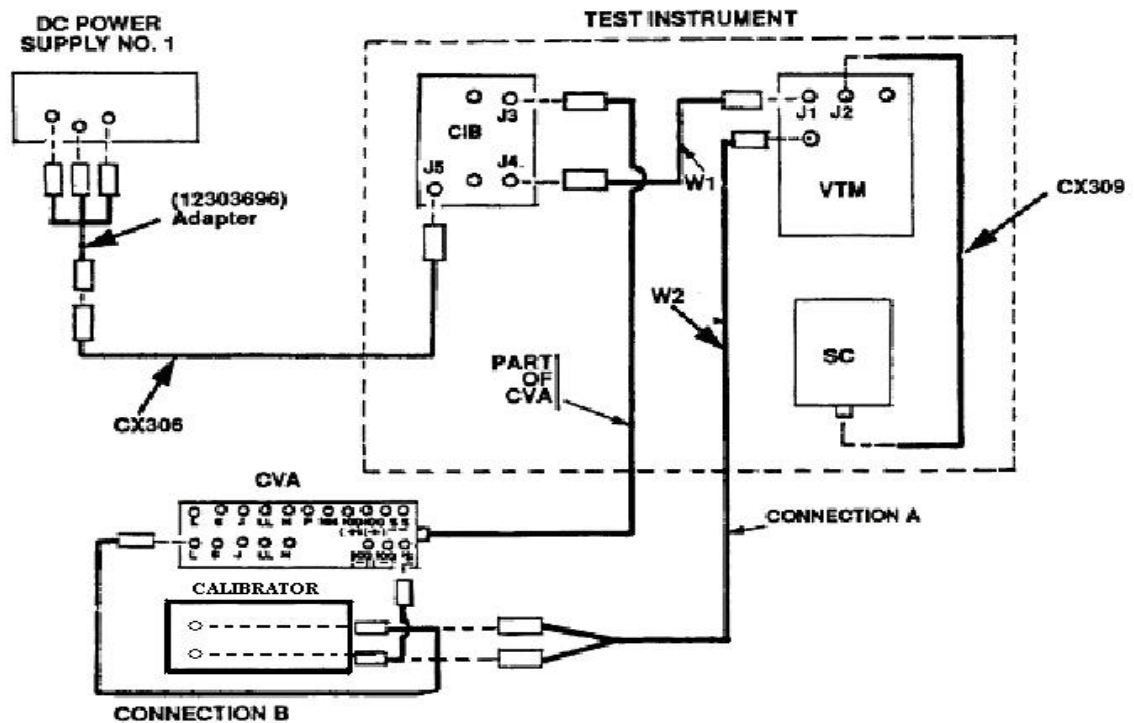

Figure 8. 10 V and 100 mV channel accuracy - equipment accuracy.
- a. Connect equipment as shown in CONNECTION A (fig. 8).
(1) Set calibrator to **STANDBY** and +9.500 V output.
(2) Connect equipment as shown in CONNECTION B (fig. 8).
(3) Press **STOP** and **CLEAR** key on set communicator.
(4) Using **DATA ENTRY** keys, enter **66657** on set communicator and press **GO** key.
(5) Set calibrator to **OPERATE**. Set communicator will indicate between 9.3 and 9.7.
(6) Set calibrator to **STANDBY**.
- (1) Connect equipment as shown in CONNECTION B (fig. 8), except connect + (positive) lead from calibrator to 100 (+) terminal on CVA and connect – (negative) lead to -100 terminals.
- (2) Set calibrator to all zeroes and **OPERATE**.
- (3) Using **DATA ENTRY** keys, enter **66659** on set communicator and press **GO** key.
- (4) Set output of calibrator to 95 mV. Set communicator will indicate between 90 and 100 mV.
- (5) Reduce calibrator output to 0.
- (6) Press set communicator **STOP** and **CLEAR** keys.
- (7) Repeat technique of (2) through (6) above for enter codes 66660, 66661, and 66662. Set communicator will indicate between 90 and 100 mV for each entry.
- (8) Set calibrator to **STANDBY** and disconnect from adapter.